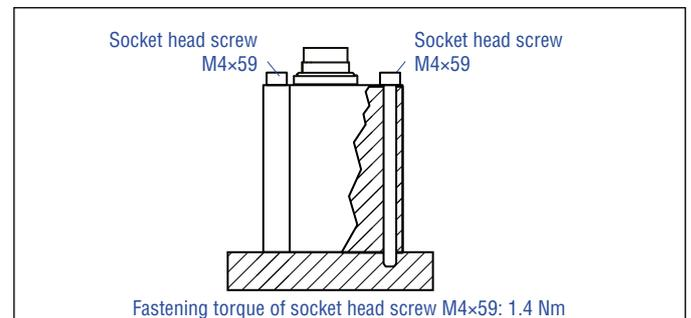

Fig. 32: Mounting with socket head screws M4x59
- Mount the sensor electronics housing by means of three non-magnetic socket head screws M4x59. Fastening torque: 1.4 Nm (Fig. 32). Secure the screws, e.g. using Loctite 243, before re-installing.